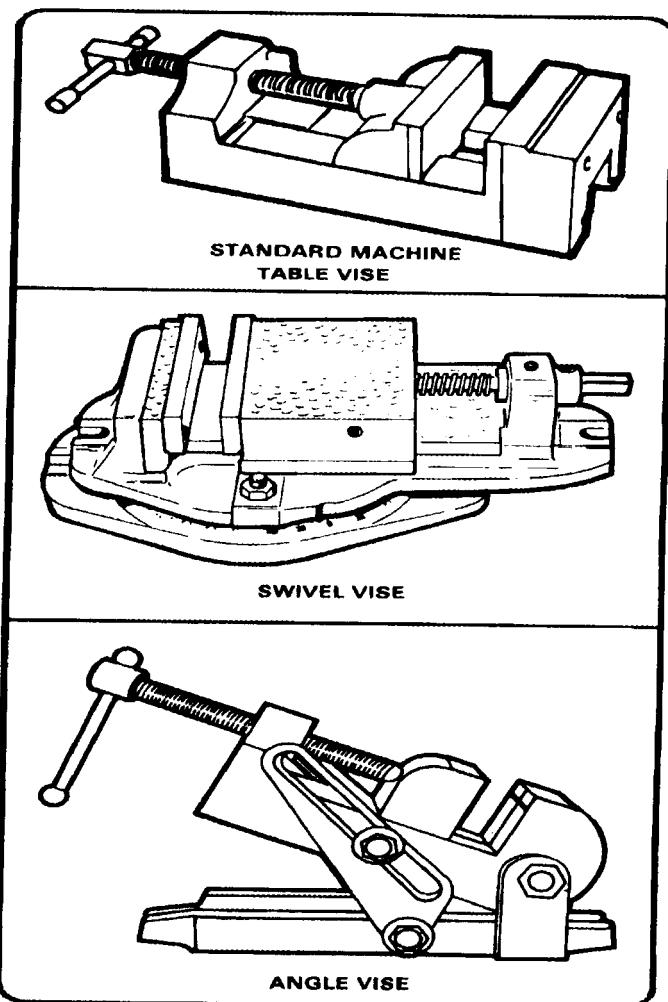

Figure 4-24. Types of vises.
- The standard machine table vise is the simplest of all vises. It is equipped with two precision ground jaws for holding onto the work and a lead screw to tighten the one movable jaw to the work (Figure 4-24).
- The swivel vise is a machine vise that has an adjustable base that can swivel through  $360^\circ$  on a horizontal plane (Figure 4-24).
- The angle vise is very similar to the table vise, except this vise can be tilted to  $90^\circ$  to be perpendicular to the work table (Figure 4-24).
Before attempting to use a drilling machine, some provision must be made for holding the workpiece rigidly and securely in place. The workpiece should always be firmly fastened to the table or base to produce holes that are located accurately. Use work holding devices to hold the workpiece (Figures 4-24 and 4-25). The two best methods to mount workplaces are explained below.